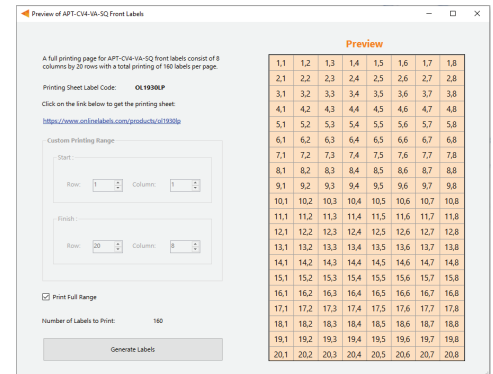

Figure 17: Label generation print preview window
- 4 Input the starting and finishing rows and columns that will fit on the back or front labels. The selected range is highlighted in blue (Figure 17).